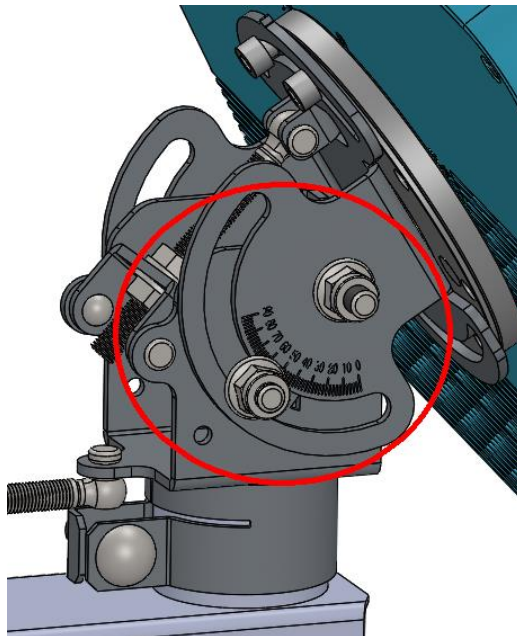

Figure 5-16 Elevation adjustment button
2. Elevation coarse adjustment: Press the elevation coarse adjustment button with the right middle finger, press the handle with the index finger, and lift the panel upward with the left hand, that is, release the fixed lock between the Terminal panel and the base frame, and adjust the elevation adjustment mechanism to make the current elevation angle consistent with the reference elevation angle, as shown in figure 5-16.